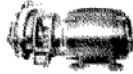

Figure 1: Close Coupled
7. Build wood dam around foundation as shown in Figure 1 (page 6), and thoroughly wet top surface of foundation. Pour grout in hole provided in top of bedplate. Use of non-shrink grout is recommended. Grout should be thin enough to flow out under the bedplate but not so wet that sand and cement will separate. Grout should be puddled continuously as it is poured to expel the air and completely fill the space under the bedplate to the level of the grout hole. Strike along top of dam with trowel to give a neat finished appearance. Allow grout to harden at least 48 hours.